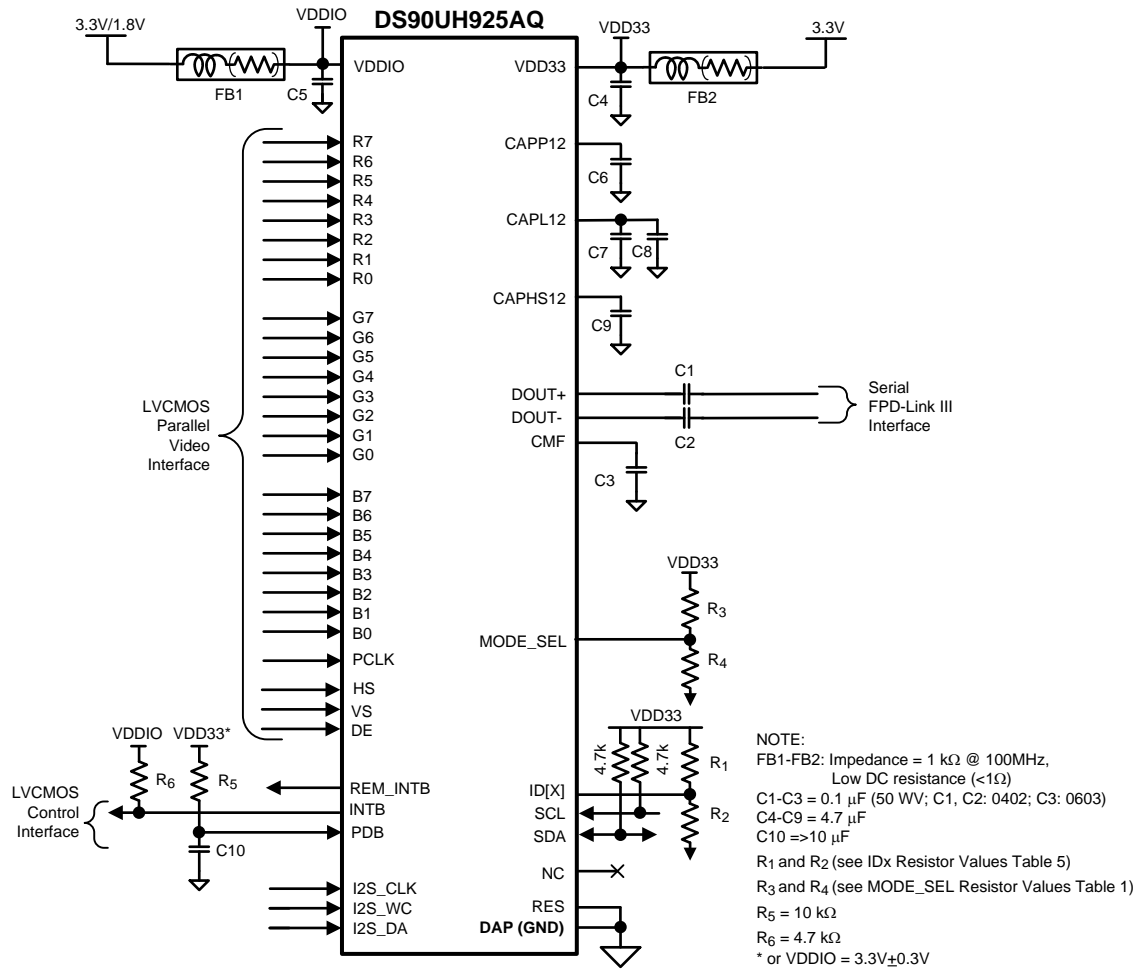

Figure 25. Typical Connection Diagram
Figure 25 shows a typical application of the DS90UH925AQ serializer for an 85 MHz 24-bit Color Display Application. The CML outputs must have an external 0.1 µF AC coupling capacitor on the high speed serial lines. The serializer has an internal termination. Bypass capacitors are placed near the power supply pins. At a minimum, six (6) 4.7µF capacitors (and two (2) additional 1µF capacitors) should be used for local device bypassing. Ferrite beads are placed on the two (2) VDDs (VDD33 and VDDIO) for effective noise suppression. The interface to the graphics source is with 3.3 V LVCMOS levels, thus the VDDIO pin is connected to the 3.3 V rail. A RC delay is placed on the PDB signal to delay the enabling of the device until power is stable.